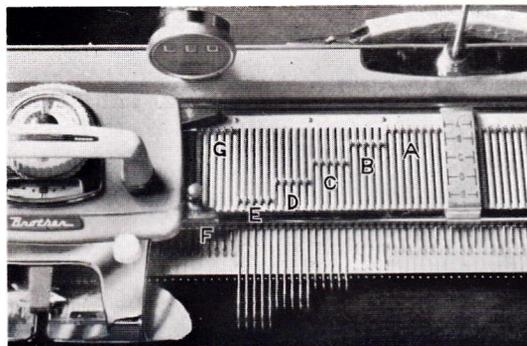

Fig. 16
(See Fig. 16)
Both change levers are identical. They can be set at two different positions, knitting and holding position. For holding position, the change levers are moved to the front. (F) (See Fig. 16)
For holding position, the change levers are moved to the rear. (G) (See Fig. 16)
When you wish to knit on the needles in the holding position (which means that needles are pushed forward as far as they will go) set the change levers to the knitting position. (F) When you don't wish to knit on the needles in the holding position, set the change levers to the holding position. (G) (See Fig. 16)